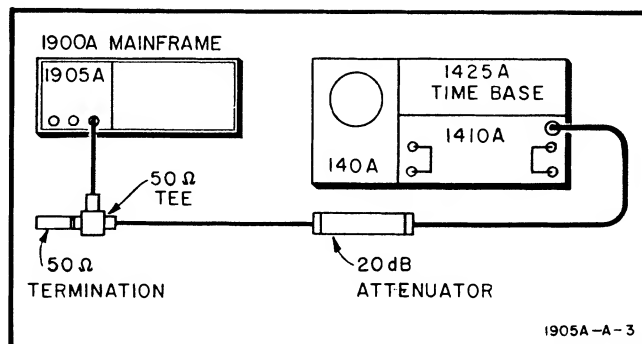

Figure 5-1. Output Pulse Test Setup
a. Connect the equipment and accessories as shown in Figure 5-1.
- Set up the equipment as shown in Figure 5-1.
- Connect the equipment as shown in Figure 5-1. Then extend the Model 1905A from the Model 1900A mainframe using HP extender plug-in 10484A.